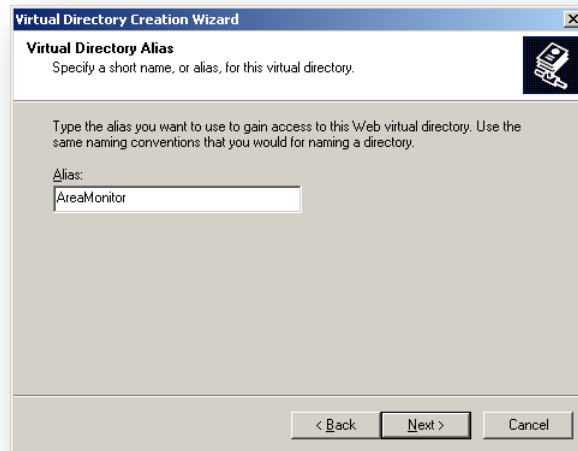

Figure 93 – Virtual Directory Alias
5. Click on the right arrow next to “Default Web Site” in the left pane of the IIS Manager window. See Figure 93.